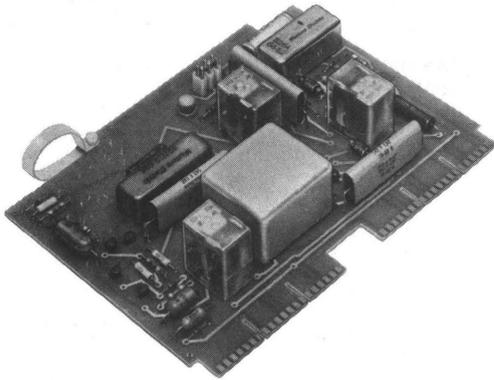

Fig. 4—102A (MD) Interconnecting Unit
**2.04 102A (MD) Interconnecting Unit**—An 8-inch circuit pack for use in the interconnection of a Bell System CO and a customer-provided PBX CO trunk where loop-start signaling is required. This unit is intended to mount in a 604-type or 615A panel. (See Fig. 4.)